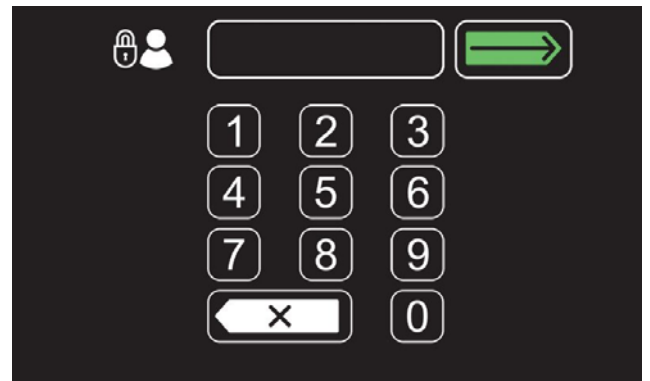

FIG. 176
8. To enable the login screen at start up (Figure 176), see Enabling the Login.